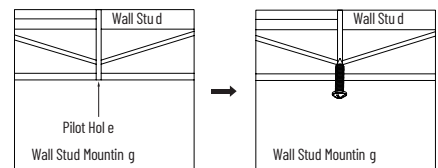

Figure 4
If the mounting holes go through wall studs, drill four small pilot holes using a 5/32" drill bit (not included) for the wood screws (BB). Install the four wood screws (BB) into the mounting surface but leave about a 3/8" gap between the screw head and mounting surface. (Figure 4)